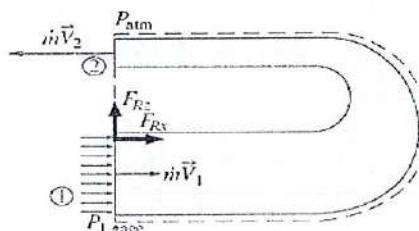

Figure 5 / Rajah 5
- b) A reversing elbow as shown in **Figure 5** makes the fluid a 180° U-turn before it is discharged water at flow rate of 14 kg/s into the atmosphere. The cross-sectional area of the elbow is 113 cm^2 at the inlet and 7 cm^2 at the outlet. The elevation difference between the centers of the outlet and the inlet is 30 cm . The weight of the elbow and the water in it is considered to be neglected. Determine: